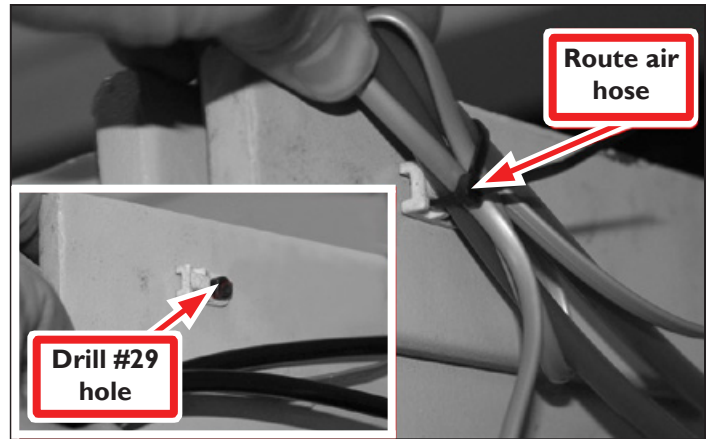

Figure 24
11. Drill a hole in the upper portion of the spindle cover's left wall with a #29 drill bit (see **Figure 24 inset**).
13. Route the air hoses and excess pendant wire through the Wire Tie and tighten (see **Figure 24**).